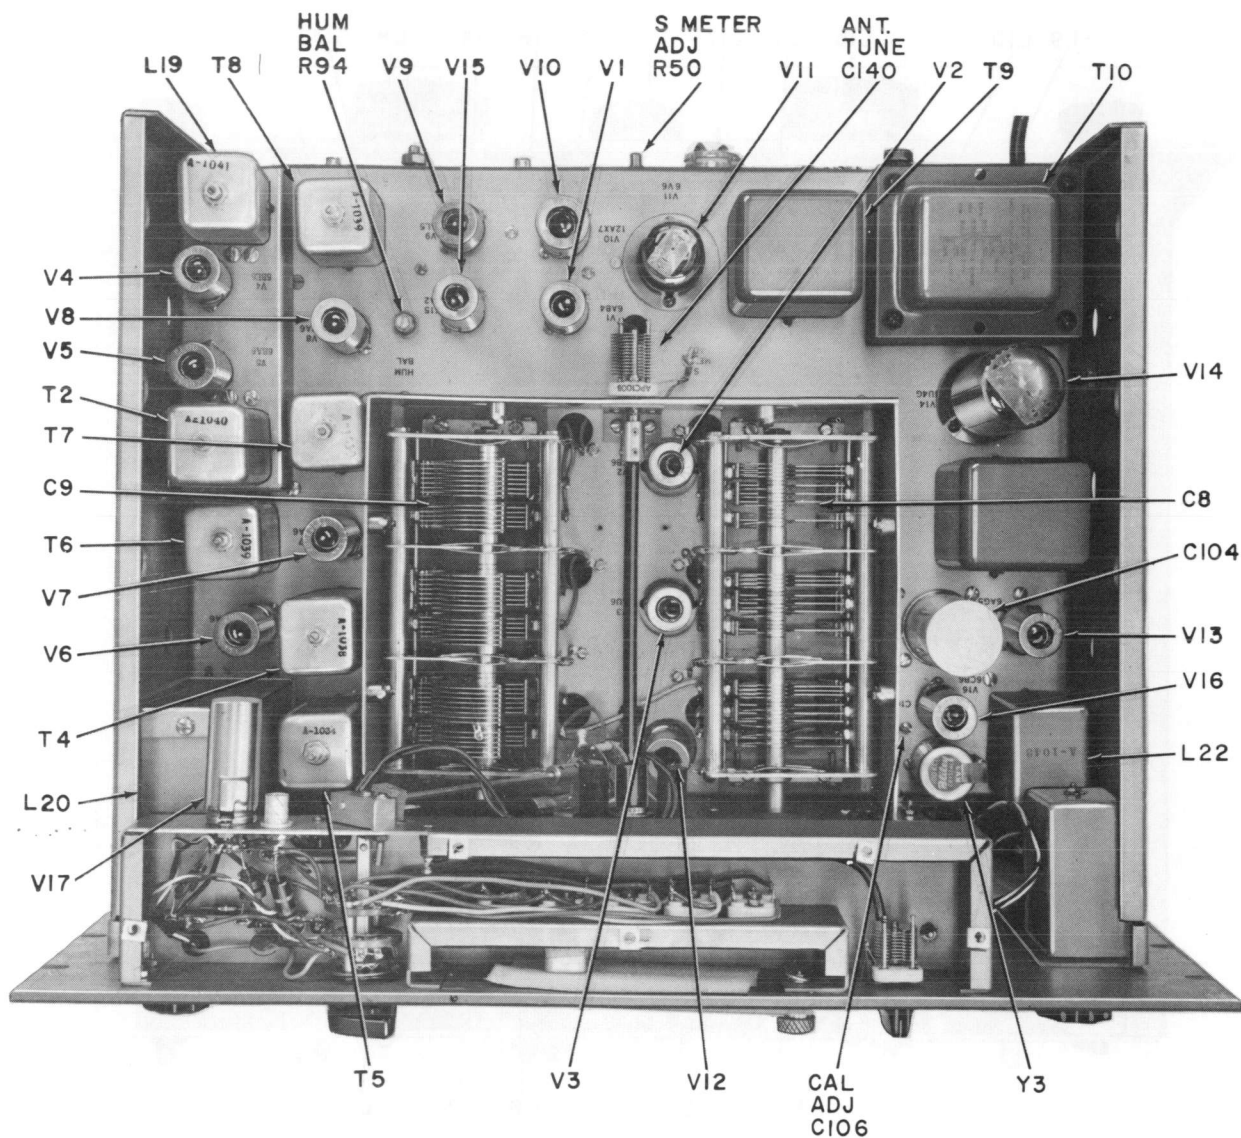

Figure 5-2. Location of Major Electronic Components, GPR-90RXD, Top View
(1) GENERAL. - Corrective maintenance of the GPR-90RXD's is limited to alignment of their tank circuits, S-meters, and hum balance adjustments. The circuits of the GPR-90RXD have been carefully aligned by factory personnel. Realignment of the GPR-90RXD should not be attempted until all other causes of faulty operation have been investigated. Alignment should not be required unless the GPR-90RXD has been tampered with or some component part replaced in the stages containing tuned circuits. Alignment should be made only by personnel familiar with GPR-90RXD's and experienced with their alignment.
(2) IF ALIGNMENT. - The low frequency should be aligned first. Remove the dust cover over the tuning capacitor shield compartment by removing the knurled nuts. Couple the signal generator to the lug of the middle section of the main tuning capacitor. (See figure 5-2.) Connect the oscillator return to ground by means of a short wire with alligator clips on each end. Connect the 600-ohm, 10-watt load and the AC voltmeter across the 600-ohm speaker terminals. Set the following controls and switches as follows:
(3) 455 KC. - Turn the RF SELECTIVITY to the NON XTAL position and the signal generator frequency to 455 kc, modulated 30 percent at 400 cycles. A pair of headphones may be used for monitoring purposes. Adjust the signal generator output until some deflection is noted on the output meter. Peak IF transformers T8, T7, T6, T5 (top and bottom), and T4 (top) for maximum output. (See figures 5-2 and 5-3 for the location of these adjustments. During